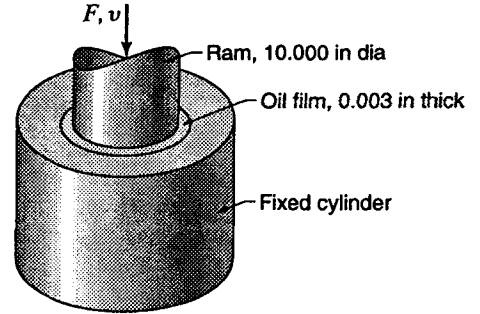

Figure P2.21
2.22 A hydraulic lift of the type commonly used for greasing automobiles consists of a 280.00-mm-diameter ram which slides in a 280.18-mm-diameter cylinder (similar to Fig. P2.21), the annular space being filled with oil having a kinematic viscosity of 0.00042 m²/s and specific gravity of 0.86. If the rate of travel of the ram is 0.22 m/s, find the frictional resistance when 2 m of the ram is engaged in the cylinder.